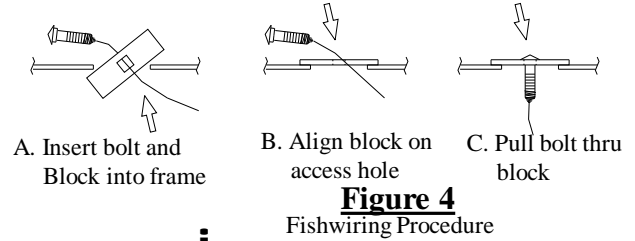
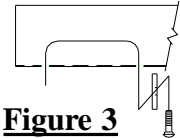

Figure 4
Figure 3
- Fishwire spacer and 7/16" carriage bolt thru access hole modified in Step 4 and down thru center hole in each frame rail (see figure 3). Insert remaining blocks and 1/2" carriage bolts into access holes and drop back down thru holes, making sure blocks span both sides of hole (see Figure 4).